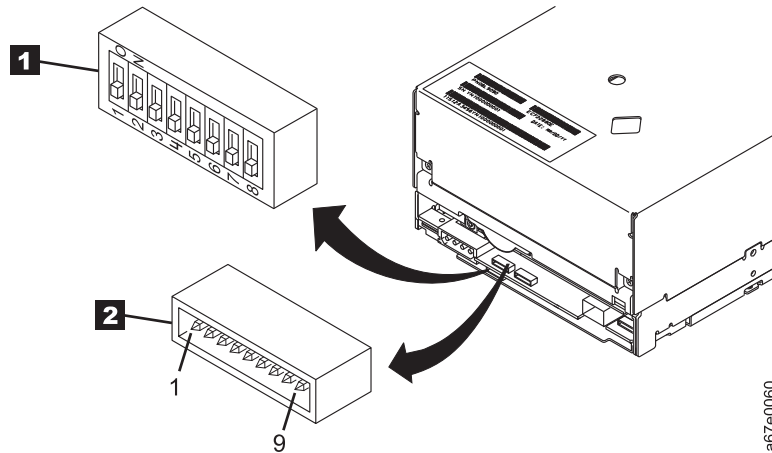

Figure 2-2. Setting the Loop ID and the AL\_PA. The feature switches are located on the bottom of the drive.
If Feature Switch 3 on the drive is set to OFF (see **1** in Figure 2-2 on page 2-4), the LID/status connector **2** has the following definition:
2. Locate the LID/status connector on the drive (see **2** in Figure 2-2).
If Feature Switch 3 on the drive is set to 0N (see **1** in Figure 2-2 on page 2-4), the LID/status connector **2** has the following definition:
2. Locate the LID/status connector on the drive (see **2** in Figure 2-2 on page 2-4).